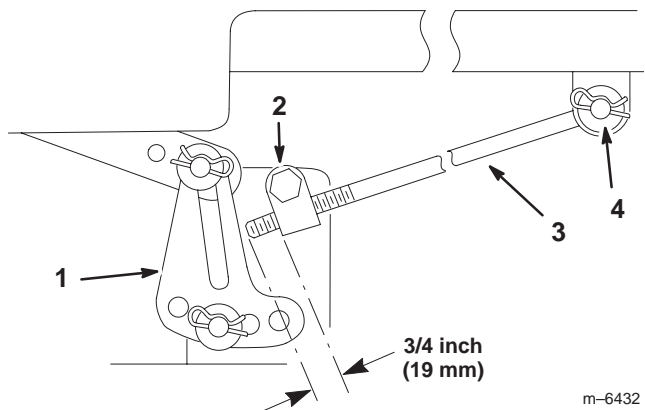

Figure 43
- Measure the length of the rod extending out of the adjusting block on the sides of the chassis (Fig. 43).
- If the rod length is **not** a 3/4 inch (19 mm), remove the hairpin cotter and washer from the end of the adjusting rod (Fig. 43) and turn the rod until the 3/4 inch (19 mm) dimension is obtained.